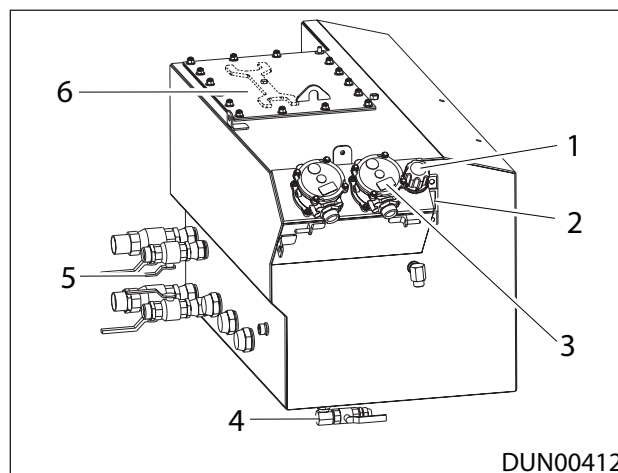

Figure 9.19 - Hydraulic Tank
5. Check the level indicator (item 2), Ref: Figure 9.19. The oil level must be between the red and black marks on the gauge.